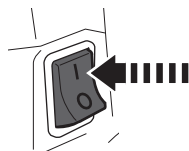

Fig. 24
- > Make sure the safety chain brake (2) is engaged (see above). The engine will not start if the chain brake is in the engaged position.
- > Ensure the saw chain (3) does not come into contact with anything before starting the engine.
- > Set the ignition switch (24) to position “I” (Fig. 24).